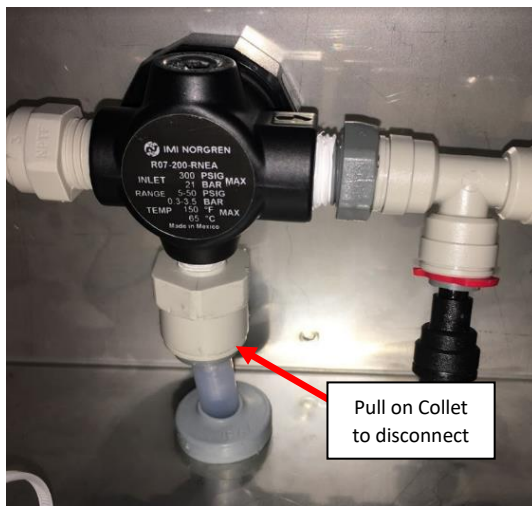
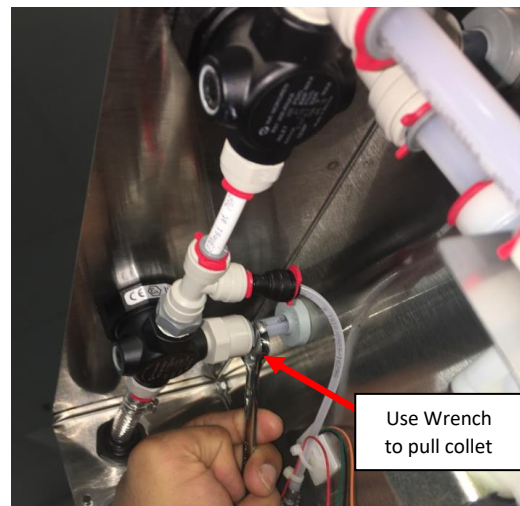

Figure L8: Push to connect joint shown.
Figure L9: Wrench used to pull on Collet.
8. Hold the Rear Enclosure with one hand and pull on the collet of the Push to connect straight fitting threaded into the back of the Left Regulator. Use a 3/8" Open Ended Wrench if fingers hard to reach with fingers. Once the push to connect fitting on the Left Regulator is disconnected, the Rear Enclosure will pull right off. See Figure L8 and Figure L9.